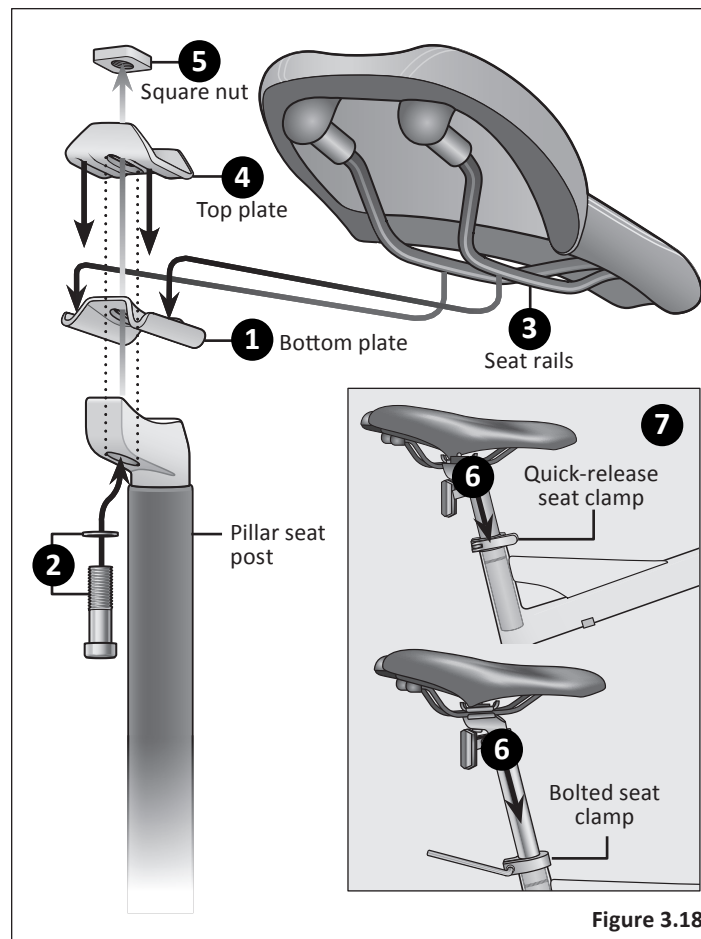

Figure 3.18
- ❶ Place the bottom plate on the pillar seat post. Be sure the holes in the bottom plate and the holes in the seat post are aligned. **Figure 3.18**
- ❷ Place the washer on the hex bolt and insert the bolt through the bottom hole of the pillar seat post and bottom plate.
- ❸ Place the rails of seat into the grooves of the bottom plate.
- ❹ Place the top plate over the top of the seat rails. The hex bolt should be inserted through the hole in the top plate.
- ❺ Insert the square nut onto the hex bolt and tighten completely.
- ❻ Insert the pillar seat post into the seat tube and adjust the seat height up or down until the rider feels they have control of the bicycle and are comfortable.